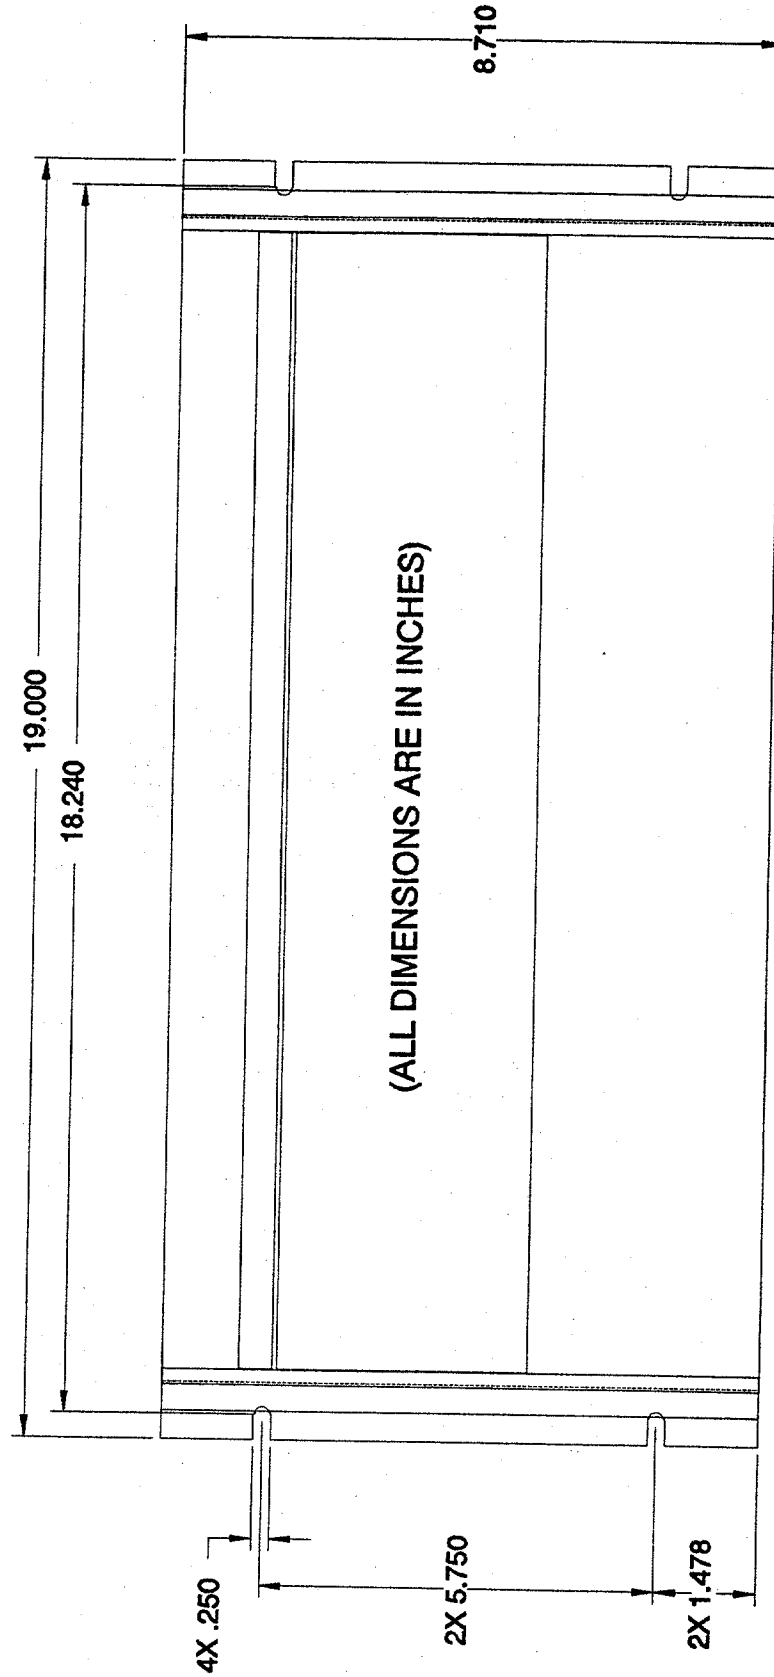
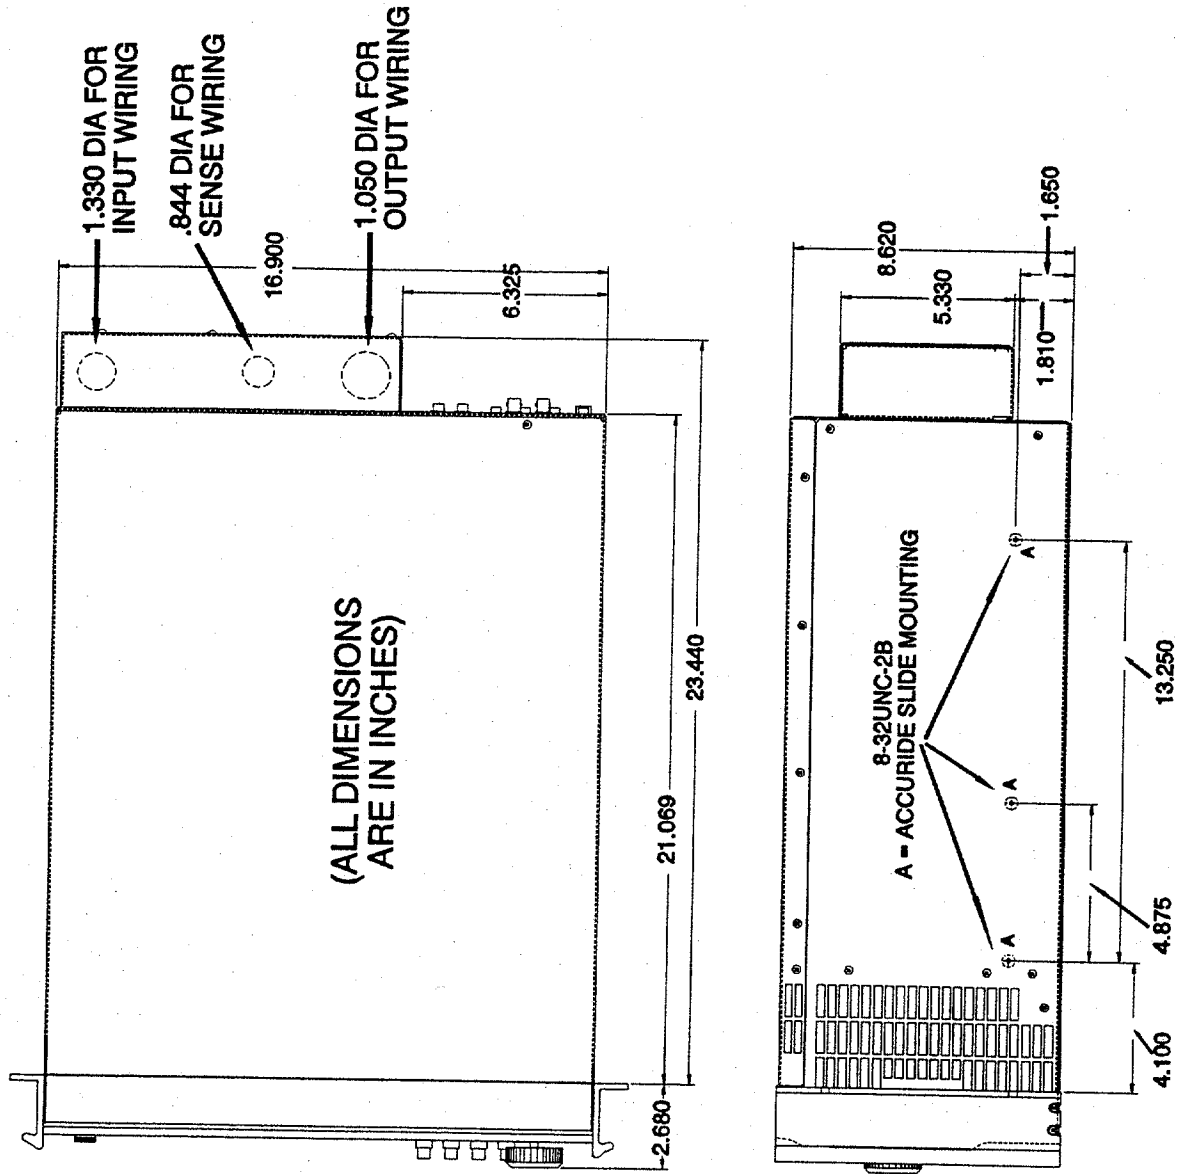
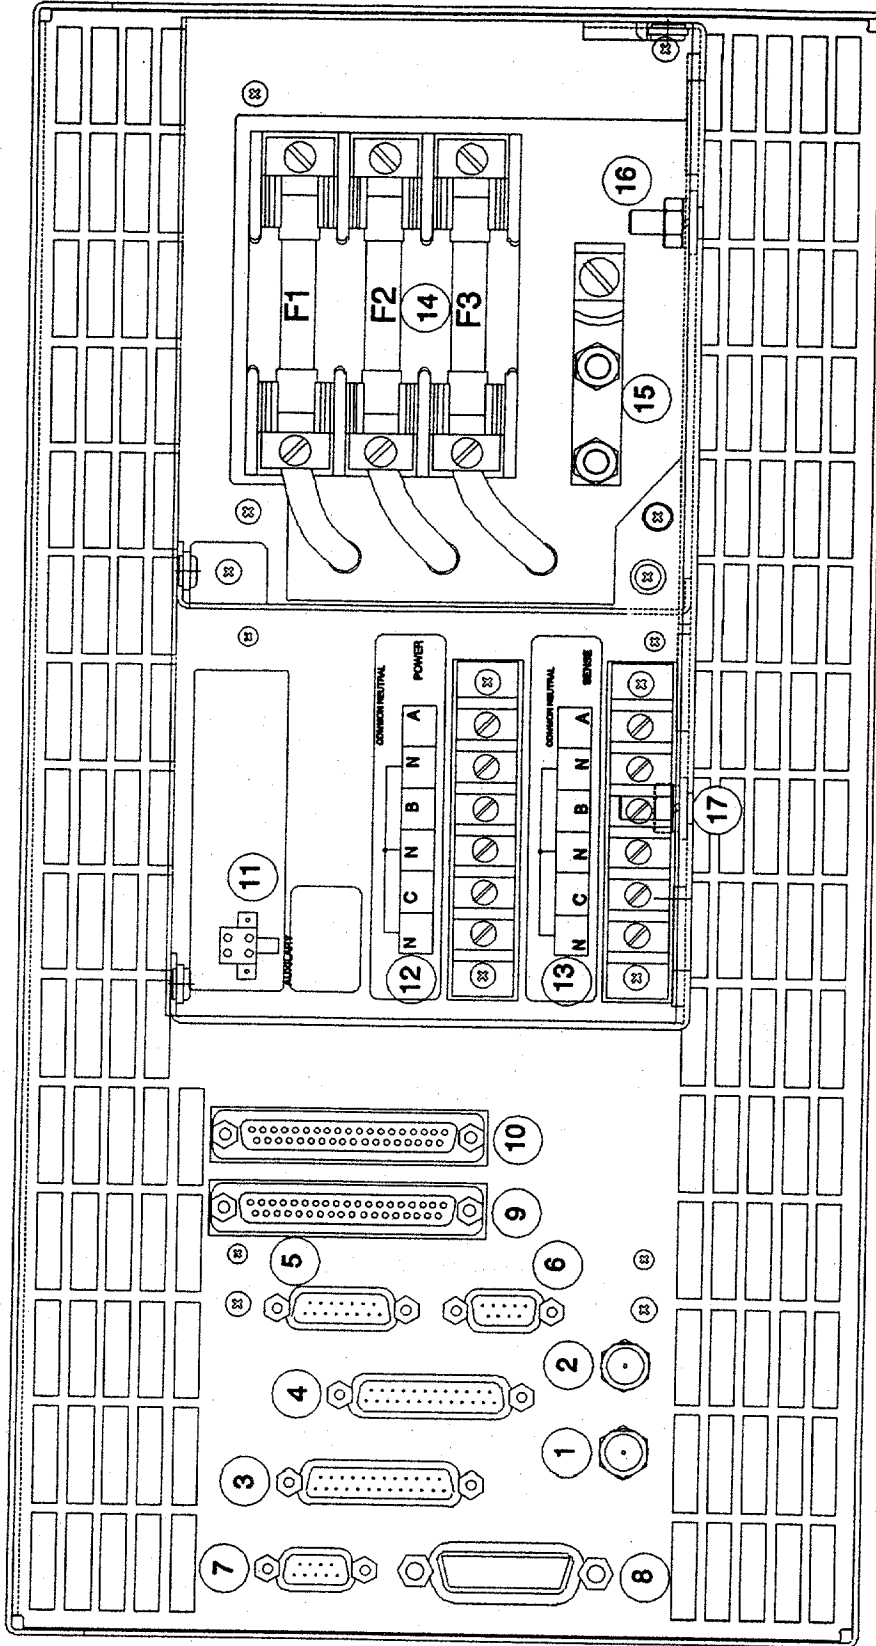

Figure 2-1. SW 5250 (Front View) Mounting Dimensions
Figure 2-2. SW 5250 (Top and Side View) Mounting Dimensions
Figure 2-3. SW 5250 Rear Panel
The preferred mounting method for full power operation is bottom mounting. Slide mounting may impair air flow from the side air intakes. If slides must be used, select narrow slides to minimize restrictions to air flow and select cabinets without wide rails which can block air flow. Refer to Table 2-1 for the recommended slides and Figure 2-2 for the mounting location.
Refer to Figures 2-1 and 2-2 for information on outline and mounting dimensions of the SW 5250. Refer to Figure 2-3 and Tables 2-2 through 2-7 for rear panel connector information. Also refer to Figure 2-2 for customer wiring conduit details.
The RS232, SLAVE IN, SLAVE OUT AND AUX OUT connectors (Figure 2-3, Items 6, 9, 10, and 11, respectively) are Elgar proprietary. Thus, the pinouts will not be provided.
(Refer to Figure 2-3)
2.7.1 BNC Connectors (Figure 2-3, Items 1 and 2)
2.7.2 VXI A (Figure 2-3, Item 3)
2.7.3 VXI B (Figure 2-3, Item 4)
2.7.4 EXT IN (External Input) (Figure 2-3, Item 5)
2.7.5 DFI (Direct Fault Indicator) (Figure 2-3, Item 7)
2.7.6 IEEE 488.2 (Figure 2-3, Item 8)